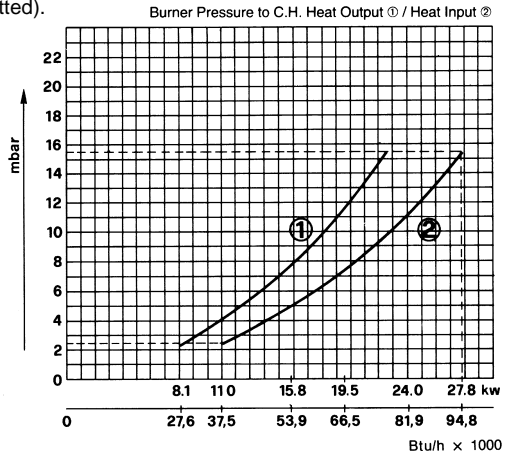

Fig. 18
4.2 **Room Thermostat** (fig. 18) (or remote time clock connection)
Note 2 - The range of inputs with corresponding burner pressure is given on the Data badge which is situated behind the top front panel. Further informations is on (fig. 18).